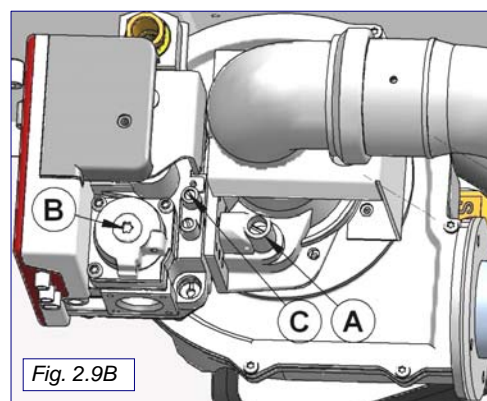

Fig. 2.9B
N.B. The gas valve screw (B) (Fig.2.9B) does not require adjustment as it has already been set by the manufacturer to an air/gas ratio of 1/1